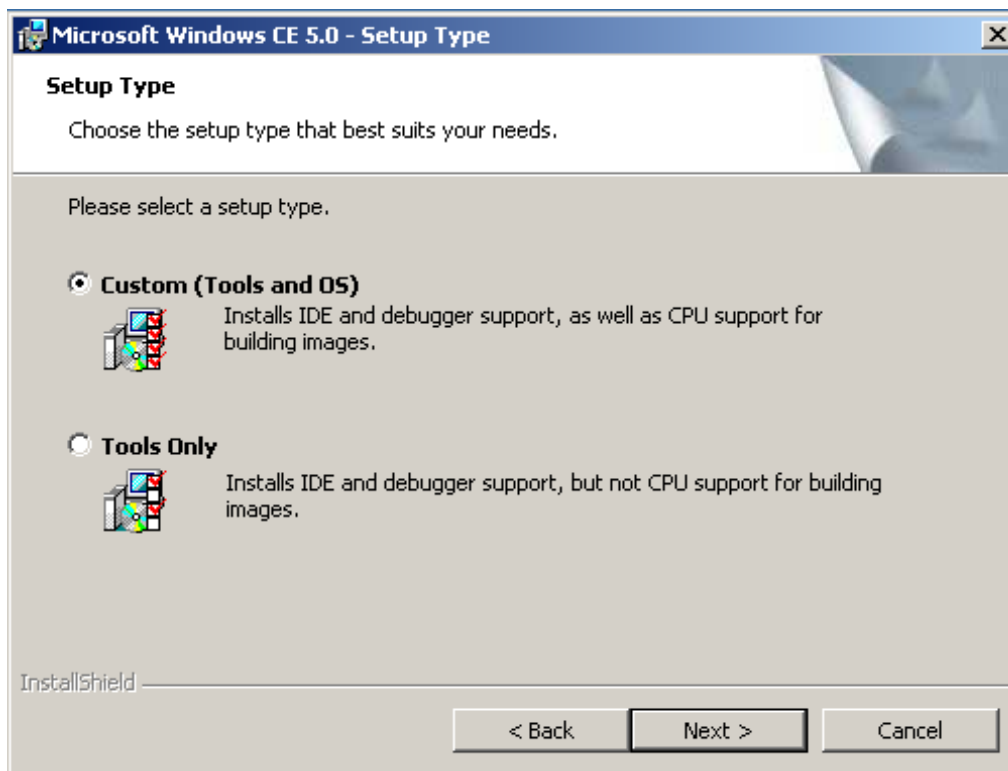

Figure 1-2 Setup Type Window
3. Follow the installation wizard until you see the “Setup Type” window (Figure 1-2).